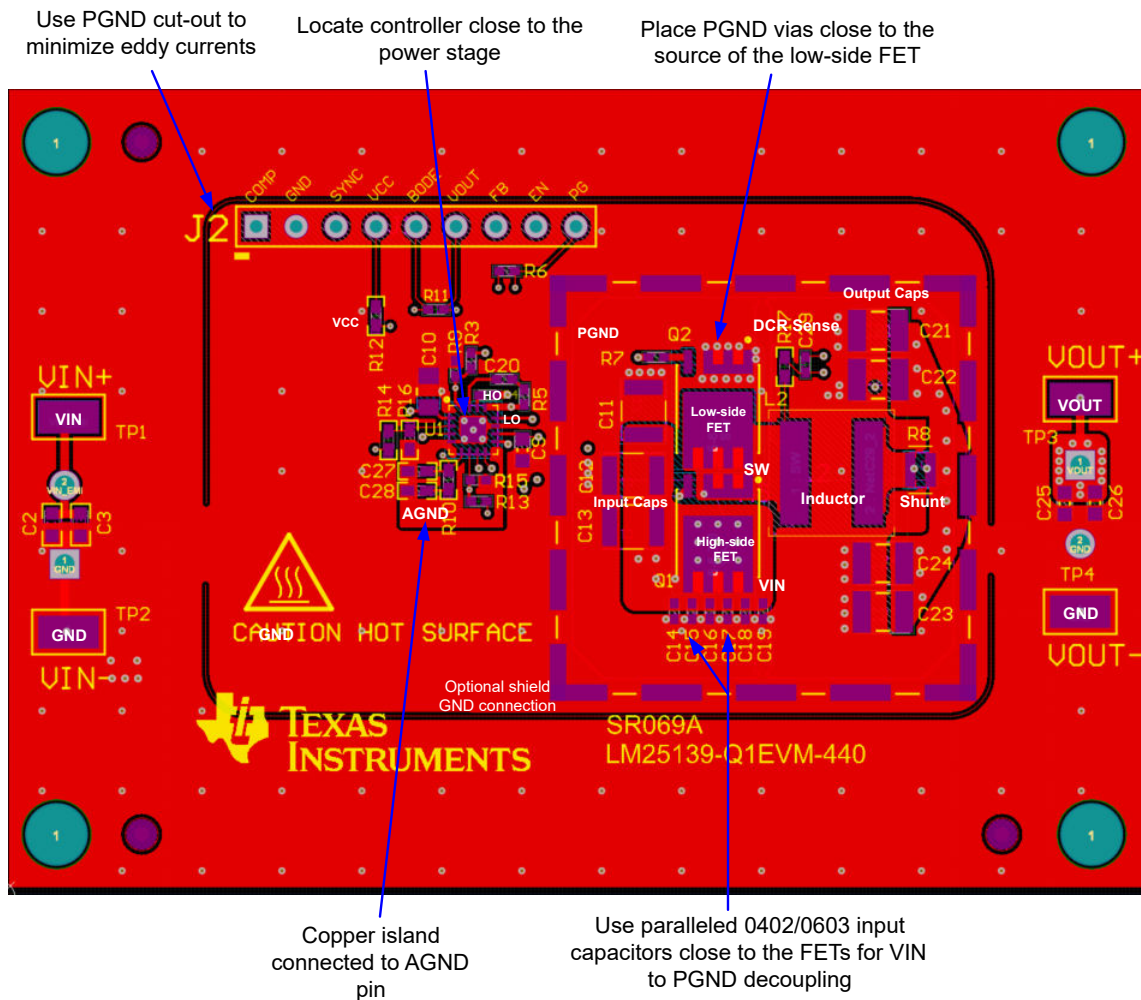

Figure 7-23. PCB Top Layer – High Density, Single-sided Design
Figure 7-23 shows a single-sided layout of a synchronous buck regulator with discrete power MOSFETs, Q1 and Q2, in SON 5mm × 6mm case size. The power stage is surrounded by a GND pad geometry to connect an EMI shield if needed. The design uses layer 2 of the PCB as a power-loop return path directly underneath the top layer to create a low-area switching power loop of approximately 2mm². This loop area, and hence parasitic inductance, must be as small as possible to minimize EMI as well as switch-node voltage overshoot and ringing.
- Make the ground connections to the LM25139 controller as shown in Figure 7-23. Create a power ground directly connected to all high-power components and an analog ground plane for sensitive analog components. The analog ground plane for AGND and power ground plane for PGND must be connected at a single point directly under the IC – at the die attach pad (DAP).